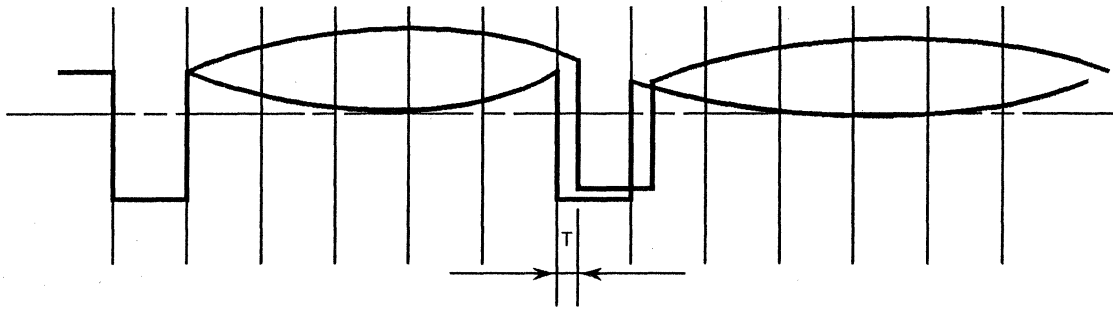

Fig. 9.7 Asymmetry Waveform
- (4) Write 1F.
- (5) A read wave form is displayed on the oscilloscope as shown in Fig. 9.7.
- (6) Confirm if it satisfies the value as shown in Table 8.1.